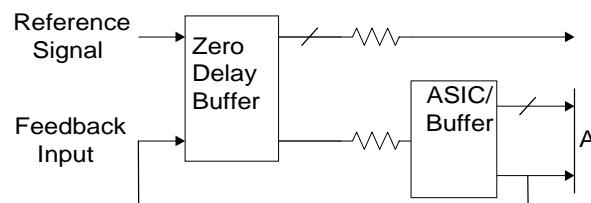

Figure 2. Six Output Buffers in the Feedback Path
Referring to *Figure 2*, if the traces between the ASIC/Buffer and the destination of the clock signal(s) (A) are equal in length to the trace between the buffer and the FBIN pin, the signals at the destination(s) device will be driven HIGH at the same time the Reference clock provided to the ZDB goes HIGH. Synchronizing the other outputs of the ZDB to the outputs from the ASIC/Buffer is more complex however, as any propagation delay in the ASIC/Buffer must be accounted for.